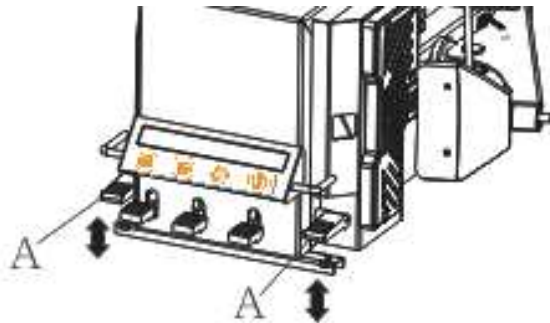

Fig.19
- Press pedal A (as fig.19) , turntable turn clockwise, until edge of wheel fall off
- *If the demounting process is prevented, stop the turntable from turning around, lift pedal A (fig. 19), let the turntable turn anti-clockwise.*